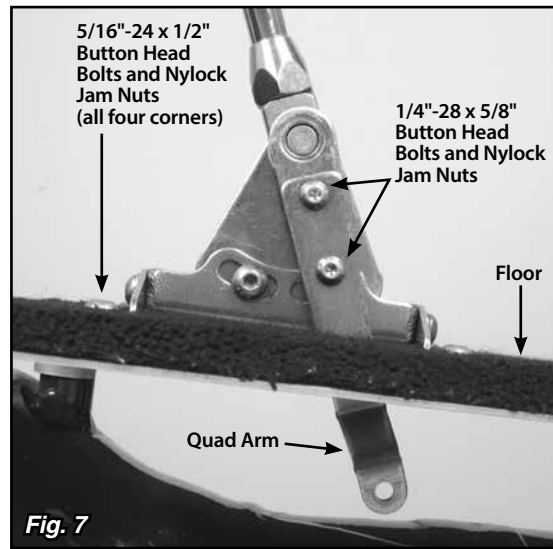

Fig. 7
Step 6: Install the quad arm onto the quad lever using the two 1/4"-28 x 5/8" button head bolts and nylock jam nuts. **Fig. 7**
Step 9: Attach the floor mount tabs to the floor using four 5/16"-24 x 1/2" button head bolts and nylock jam nuts. Once the shifter assembly is mounted to the floor, tighten the floor mount tab to floor mounting bracket bolts. **Fig. 7**